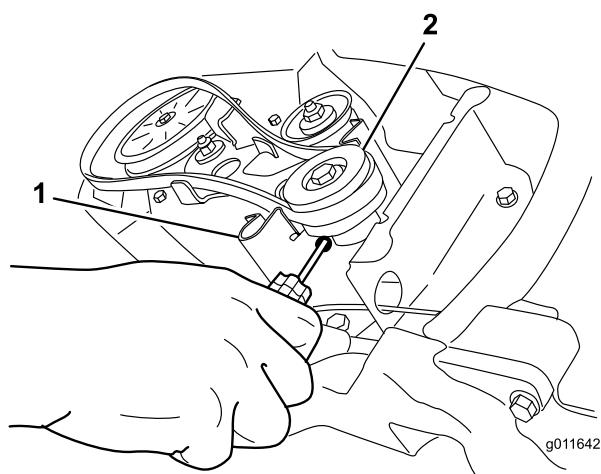

Figure 34
- Insert a screwdriver into the hole in the belt guide as shown in Figure 34, and flex the belt guide toward the rotor pulley enough to pull the belt through the gap.